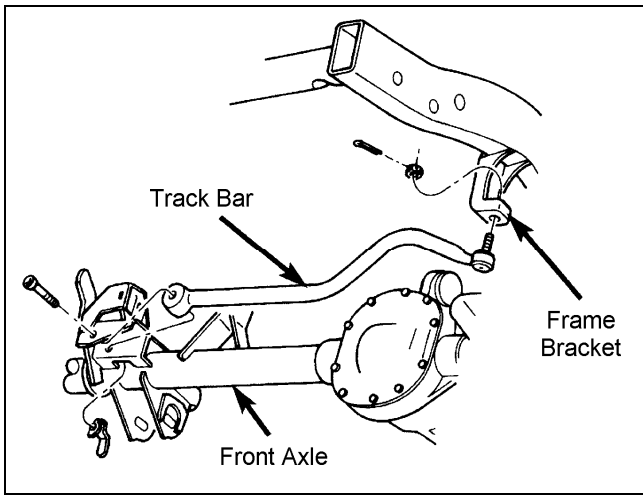

Figure 2
3)  Remove the cotter pin and nut from the ball stud end of the track bar at the frame rail bracket. Separate the ball stud from the bracket with the recommended puller tool. See figure 2.